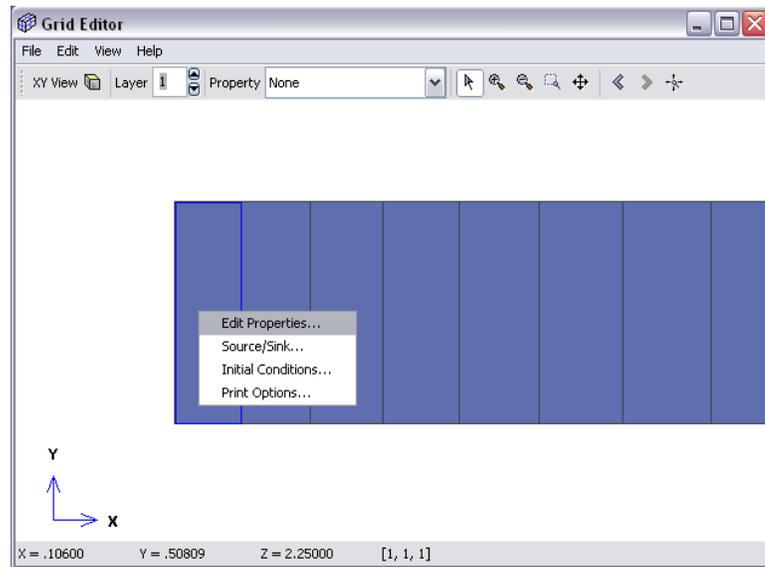

Figure 5.3. Select the left cell in the model
5. Using the **Selection** tool, right-click on the first cell and click **Edit Properties...**, Figure 5.3.